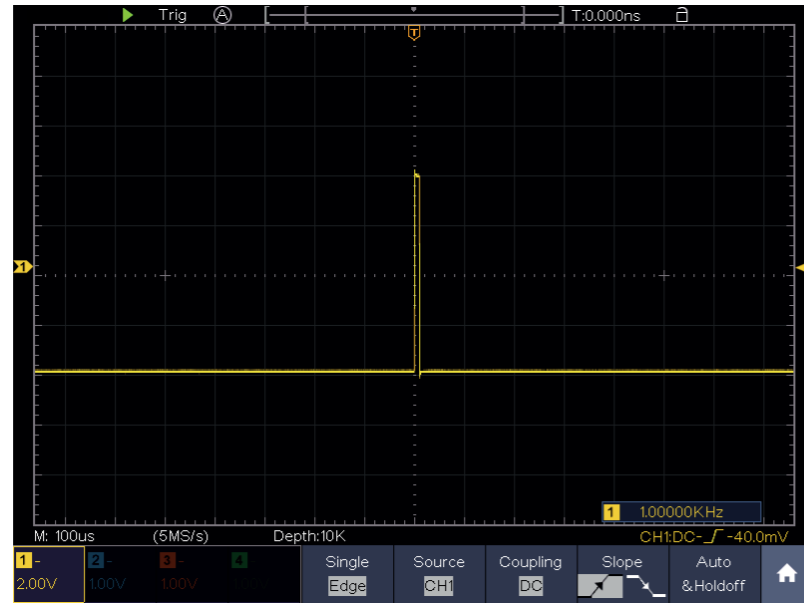

Figure 9-3 Capturing a Single Signal
- (2) Push **CH1** button to select CH1, adjust the **Vertical Scale** and **Horizontal Scale** knobs to set up a proper vertical and horizontal ranges for the signal to be observed.
- (3) Push the **Acquire** button to display the Acquire menu.
- (4) Select **Acqu Mode** in the bottom menu. Select **Peak Detect** in the right menu.
- (5) Push the **Trigger Menu** button to display the Trigger menu.
- (6) Select the first menu item in the bottom menu. Select **Single** in the right menu.
- (7) In the left menu, select **Edge** as the mode.
- (8) Select **Source** in the bottom menu. Select **CH1** in the right menu.
- (9) Select **Coupling** in the bottom menu. Select **DC** in the right menu.
- (10) In the bottom menu, select Slope as  (rising).
- (11) Turn the **Trigger Level** knob and adjust the trigger level to the roughly 50% of the signal to be measured.
- (12) Check the Trigger State Indicator on the top of the screen, if it is not Ready, push down the **Run/Stop** button and start acquiring, wait for trigger to happen. If a signal reaches to the set trigger level, one sampling will be made and then displayed in the screen. By using this approach, a random pulse can be captured easily. For instance, if we want to find a burst burr of high amplitude, set the trigger level to a slightly higher value of the average signal level, push the **Run/Stop** button and wait a trigger. Once there is a burr occurring, the instrument will trigger automatically and record the waveform during the period around the trigger time. By turning the **Horizontal Position** knob in the horizontal control area in the panel, you can change the horizontal triggering position to obtain the negative delay, making an easy observation of the waveform before the burr occurs (see *Figure 9-3*).